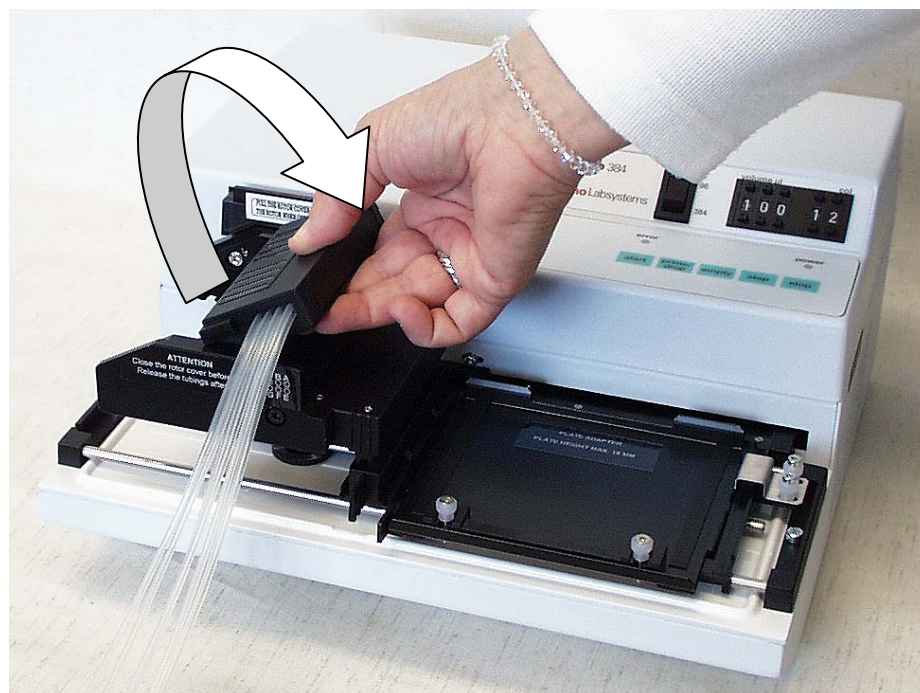

Fig. 6.4 Inserting the upper part of the dispensing cassette
4. Take a firm grip on the upper part of the cassette with your right hand and carefully pull the tubes around the rotor until the upper part reaches and fits into the upper part slots of the pump body (Fig. 6.4 and Fig. 4.1).